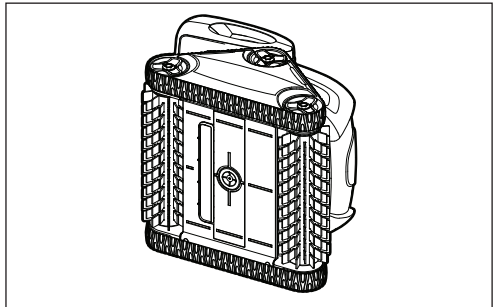

Figure 20. Stand Cleaner on its Side
1. Stand the cleaner on its side (Figure 20).